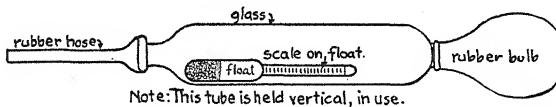

FIG. 54. Hydrometer for testing a storage battery.
65. Charging a Storage Battery. The charging process is needed whenever the electrolyte in the battery cells indicates it. To test a battery for its condition of discharge, a special device called a hydrometer is used. This instrument usually is made of a long glass tube, a rubber suction bulb, and a graduated float, as shown in Figure 54.